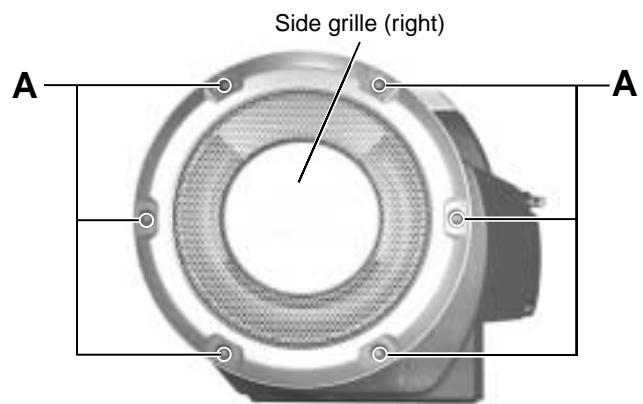

Fig.2
- Solder is put up before the card wire is removed from connector CN601 on the microcomputer board as shown in Fig. 2.